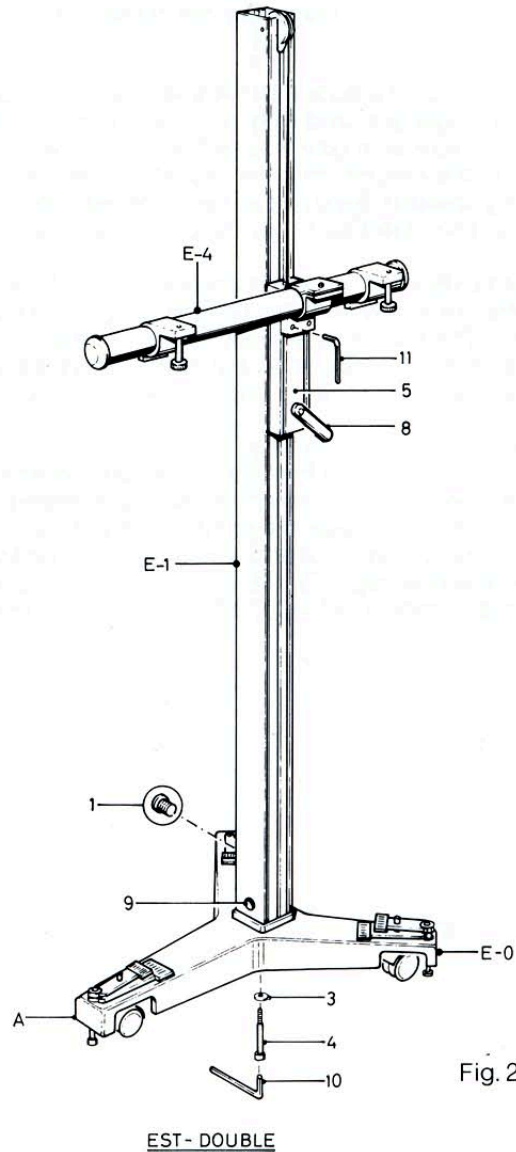

Fig. 2
- F. Mounting the E-4 double cross-arm: (see fig. 2)